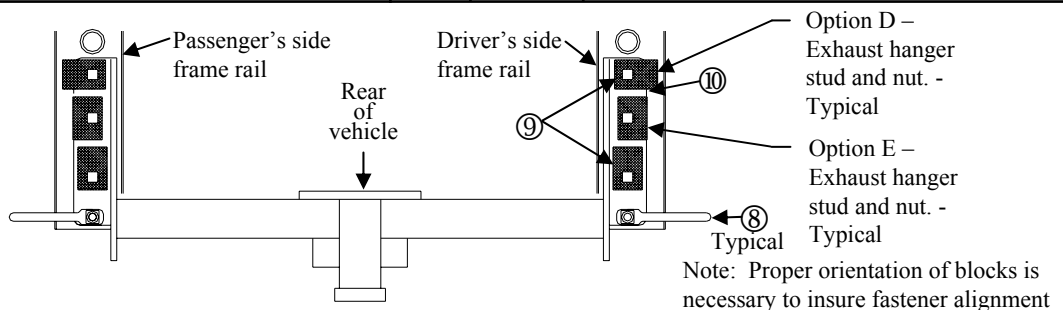

**Figure 2**
See Figures 2, 3, 4 & 5 for proper fastener combinations
Note: Five (5) installation options are possible depending on vehicle configuration refer to Figures 2, 3, 4 and 5.
2. **Option A** – See Figure 2.
**Option C** – See Figures 2 & 3